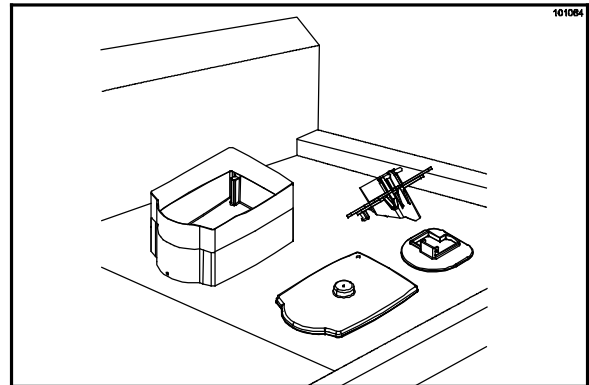

Figure 69
12. Remove the splash guard, ice chute, and ice hopper assembly. Take them to the 3-compartment sink for cleaning. (See Figure 69.)